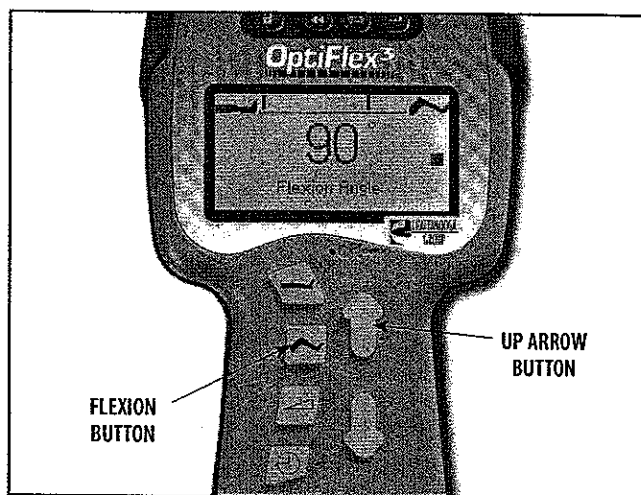

FIGURE 5.6
7. Press and hold the Flexion button. While holding the Flexion button down, press the Up Arrow button until 90° is displayed on the Pendant. See Figure 5.6.